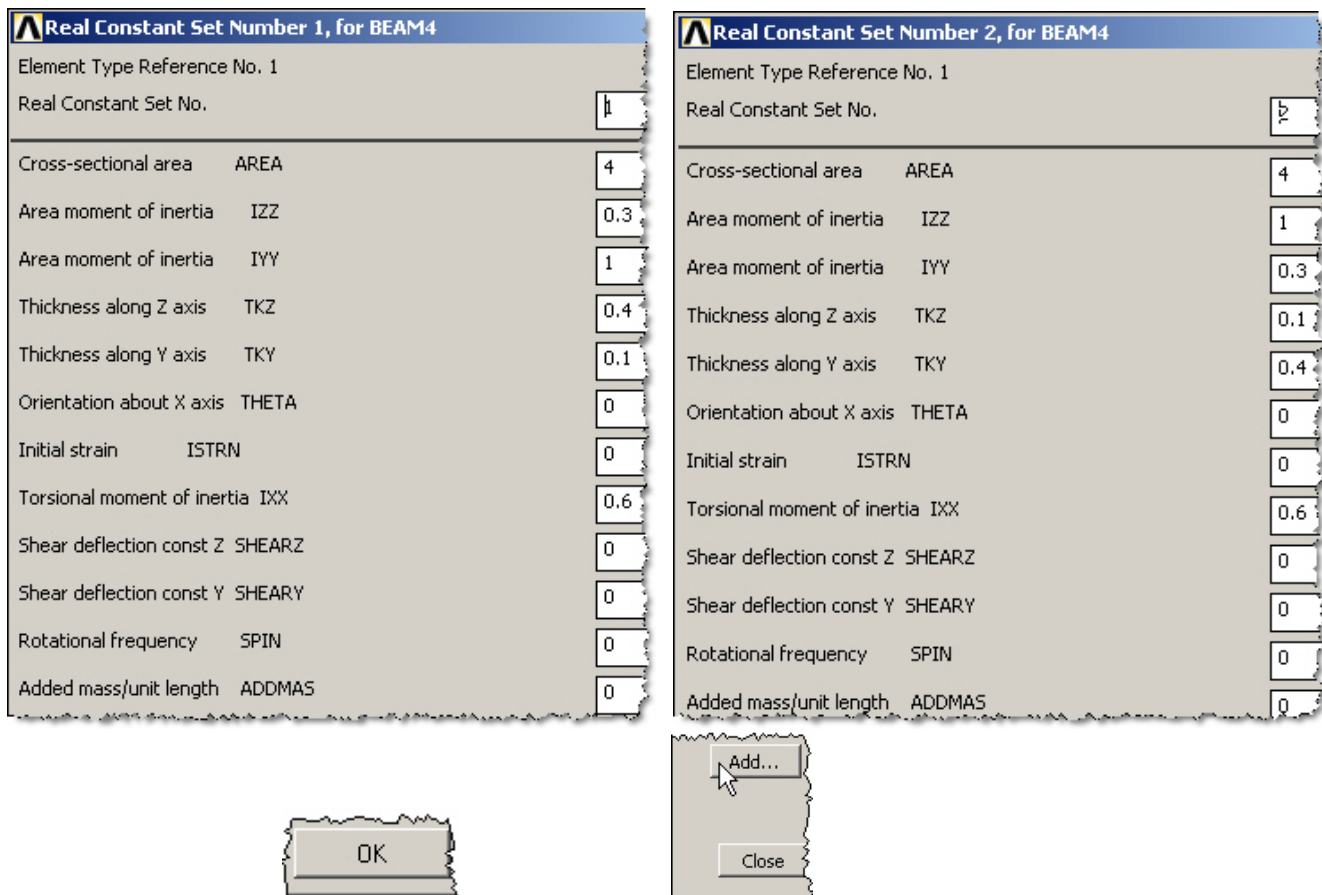

Figure 8 Real constants for beams 1 and 2, and for beam 3, respectively
5. Enter 4.0 (m²) for **Cross-sectional area (AREA)**; 1.0 (m⁴) for **IZZ**, 0.3 (m⁴) for **IYY**, and 0.3 (m⁴) for **IXX** (see Figure 8 left). The thicknesses (width and depth) of the beam cross-section were not given in the problem statement. Thus, assume
8. Reverse the y- and z- values used in step 5. Enter 4.0 (m²) for **Cross-sectional area (AREA)**; 1.0 (m⁴) for **IYY**, 0.3 (m⁴) for **IZZ**, and 0.3 (m⁴) for **IXX**, 0.1 (m) for **TKZ** and 0.4 (m) for **TKY** (see Figure 8 right), **OK**.